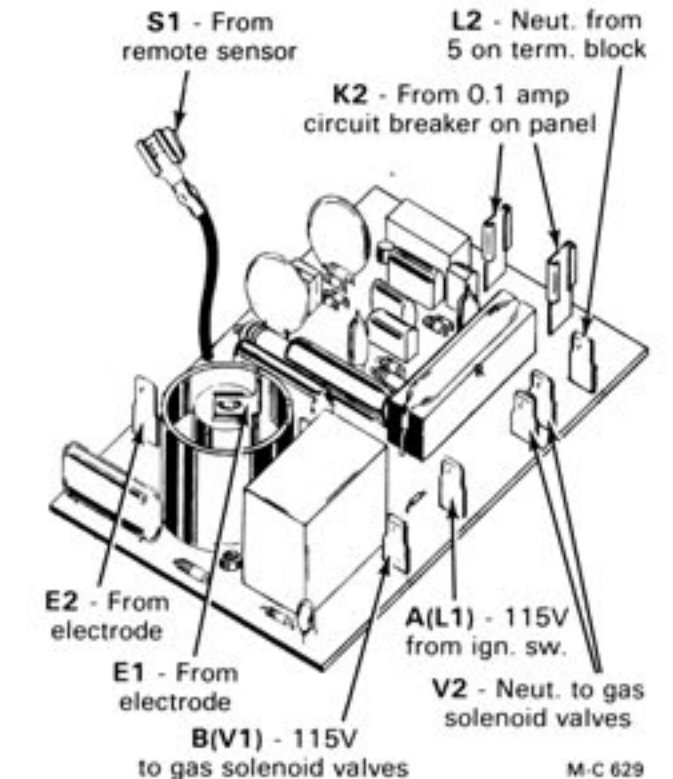

Figure 39
8. If there is 115V between terminal A (L1) and L2 check for 115V at terminal B (V1) on the ignition board, see Figure 39 and 40. Connect a voltmeter between terminal V2 and B (V1) on the ignition board.